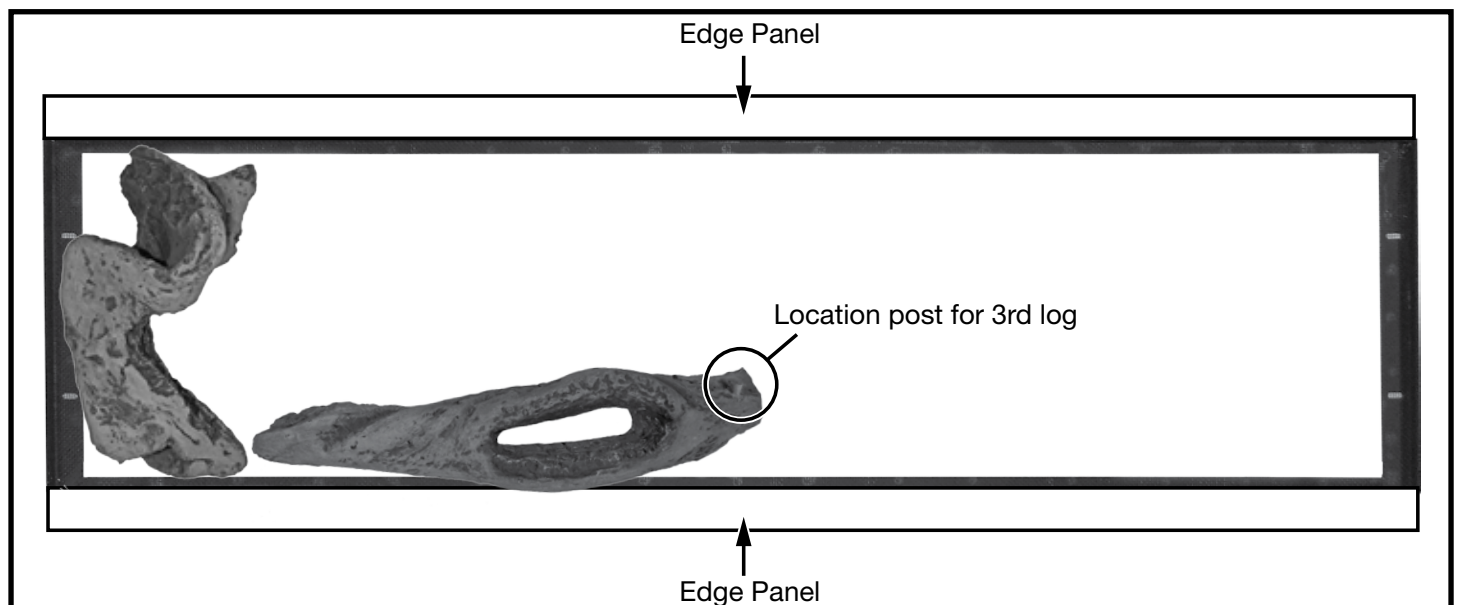

Figure 22: Log 2 placement.
2. Place the 2nd log so that the middle of it overhangs the tray itself and rests on the edge panel as shown in Figure 22. Note that there is a location post for the 3rd log at one end of the 2nd log. This location post should have a vertical alignment.